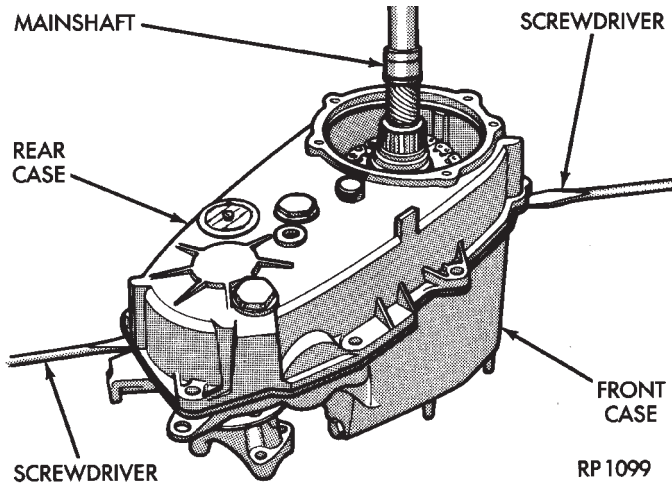

Fig. 14 Loosening/Removing Rear case
(12) Remove rear case from front case (Fig. 14). Insert screwdrivers into slots cast into each end of case. Then pry upward to break sealer bead and remove rear case.